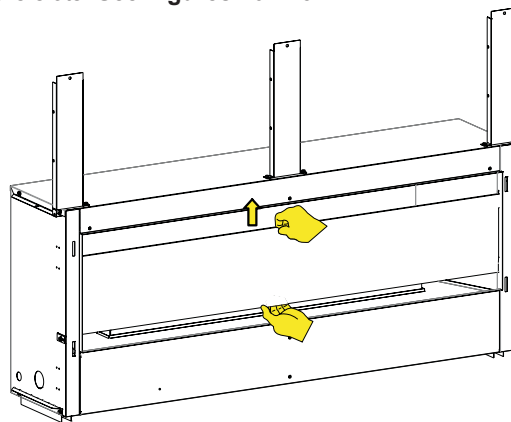

Figure 40
1. Remove the outer glass. See Figures 40 - 43.
1. Remove glass front from fireplace by lifting the glass front up, sliding it to the right, and then carefully angle left side out of the slots. See Figures 40 - 43.